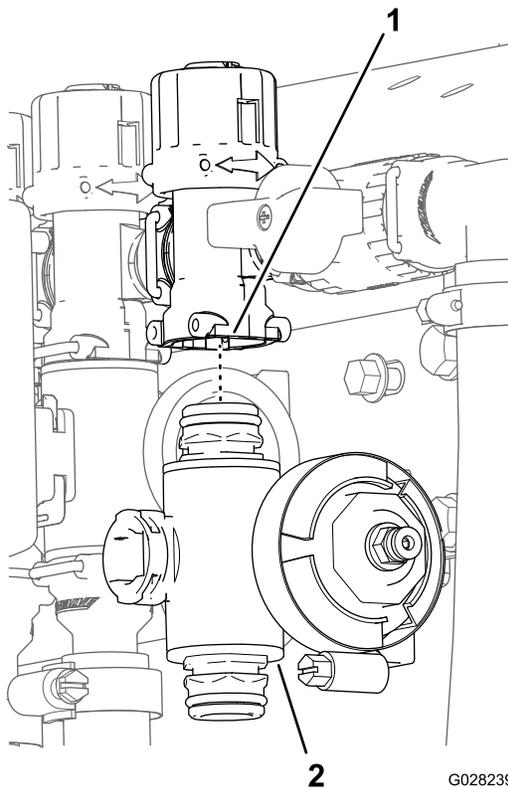

Figure 76
3. For the left or right section valves, remove the flanged-head bolts and flanged locknuts that secure the section valve(s) to the valve mount and remove the valve manifold(s) from the machine; for the center section valve, remove the section-valve manifold from the machine (Figure 76).